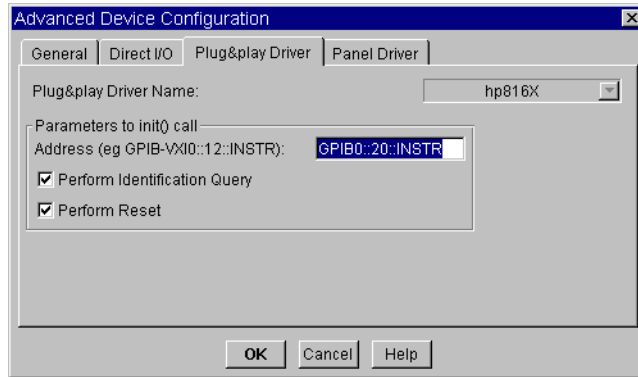

Figure 10 Advanced Device Configuration - Plug&amp;play Driver
- 4 Press Advanced I/O Config ..., the Advanced Device Configuration box pops up. Select the Plug&play Driver tab, the box in Figure 10 on page -259 appears.